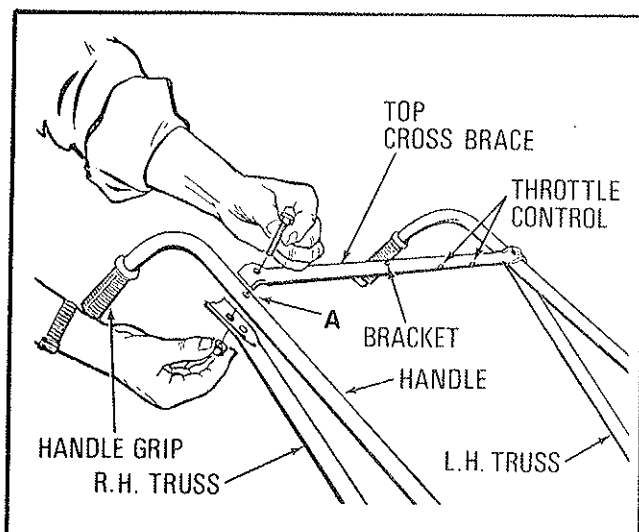

Figure 1. Top Cross Brace
A. The next step in assembly is to install the handles. There are two sets of holes in the handle truss. Use the 1/4-20 x 1-1/2 hex head bolts to attach top crossbrace to the handle, See Fig. 1. Install the crossbrace with the throttle control holes to the left side. Place the bolt thru the top hole in handle truss for maximum handle height. (If lower position is more desirable use the second hole from the end of truss). Assemble the crossbrace and truss in the same hole location on each side. **DO NOT TIGHTEN BOLTS.**
F. Slide the handle grips onto the handles. See Fig. 1.